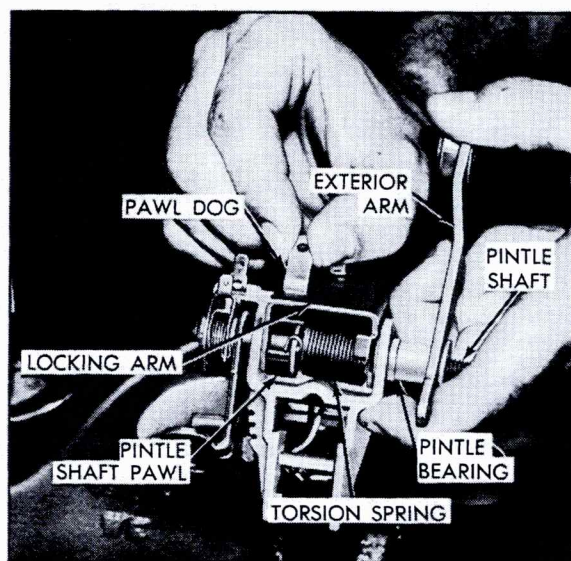

Fig. 15-21 Magnet Assembly Disassembly
9. Mount magnet assembly in a vise. Position exterior arm on pintle shaft and take up torsion spring tension, Fig. 15-21. Hold in this position and remove screw securing pawl dog to locking arm. Remove pawl dog. Slowly release and then remove exterior arm.
6. Mount magnet assembly in a vise. Position exterior arm on pintle shaft and rotate exterior arm clockwise until pawl dog can engage notch in pintle shaft pawl. Install pawl dog and attaching screw, Fig. 15-21.